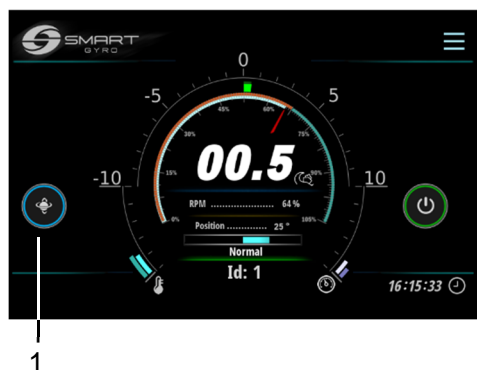

Figure 7
7. After the flywheel speed exceeds 55 % of the top speed, precession is allowed and the circle around the icon goes blue, indicating that precession is unlocked and the sphere is able to oscillate (**Figure 7, (1)**).